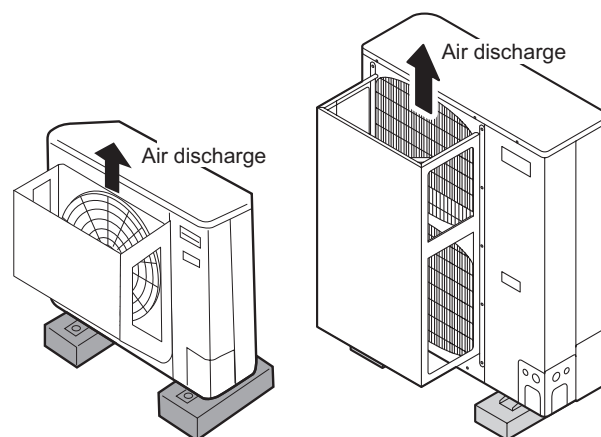

Fig. 1-7
- the air discharge outlet is facing a sidewalk and discharged hot air may bother passers-by. Refer to Fig. 1-7.